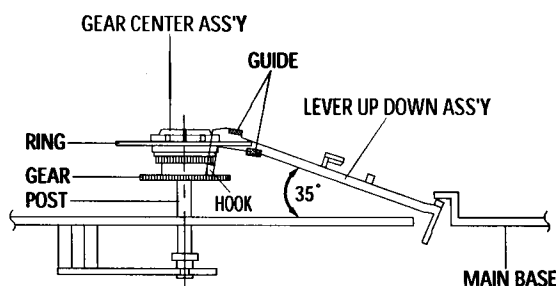

Fig. 1-22 Lever Up Down Ass'y Removal
- 1) Insert the Lever Up Down Ass'y ❶ in the rectangular holes on Main Base as shown in Fig 1-22.
- 2) Lift the Lever Up Down Ass'y ❶ about 35 degree.(Refer to Fig 1-22)
- 3) Insert Ring of the Gear Center Ass'y ❷ in the Guide of the Lever Up Down Ass'y ❶.
- 4) Insert the Gear Center Ass'y ❷ in the post on Main Base.
- 5) Push down the Lever Up Down Ass'y ❶ for locking of the Hook.